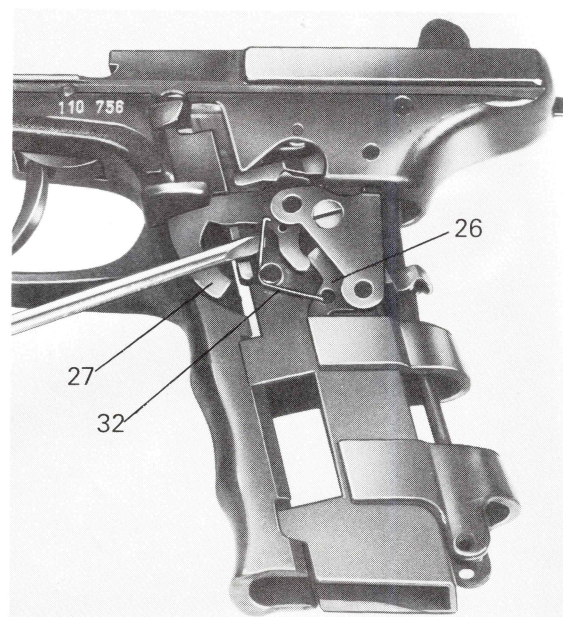

Fig. 49
- Locate the elbow spring (32) on the pivot on the left-hand side of the receiver; engage the ends of the spring into the cocking lever (27) and angle lever (26) (Fig. 49).